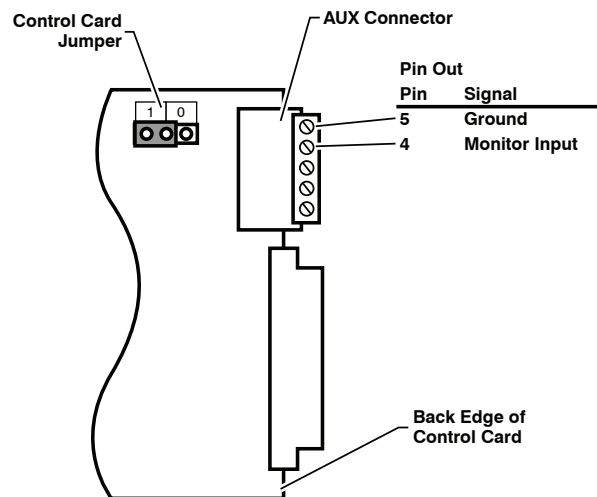

Figure 6.3: Control Module AUX Connector - Monitor Input and Ground
4. **Connect Monitor Input:** Connect the signal line that you wish to monitor to Pin 4 (Monitor Input) on the Control Module AUX Connector as shown in Figure 6.3.
4. **Connect Monitor Input:** Connect the signal line that you wish to monitor to Pin 4 (Monitor Input) on the Control Module AUX Connector as shown in Figure 6.3. Connect your ground line to the Ground Connector (Pin 5).